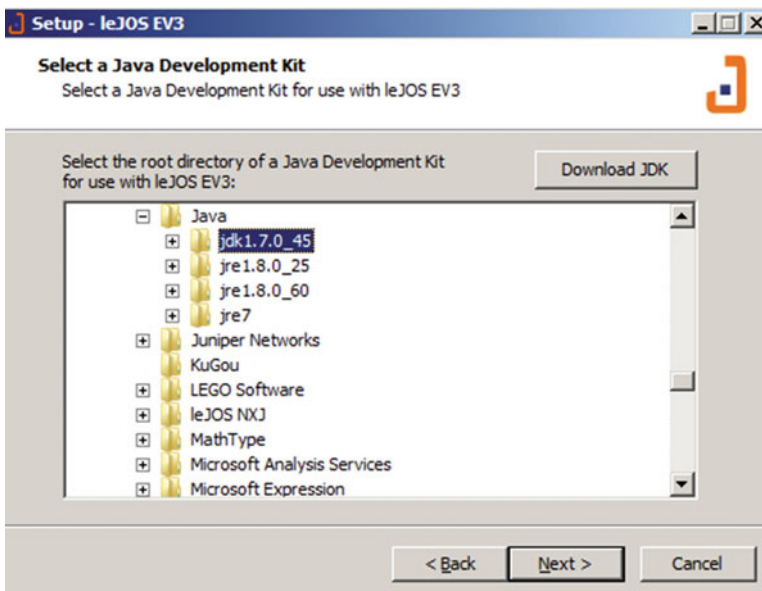

Figure 1-10. Choosing the right JDK for use with leJOS EV3
3. Click the *Next* button, and you will see the screen shown in Figure 1-10.